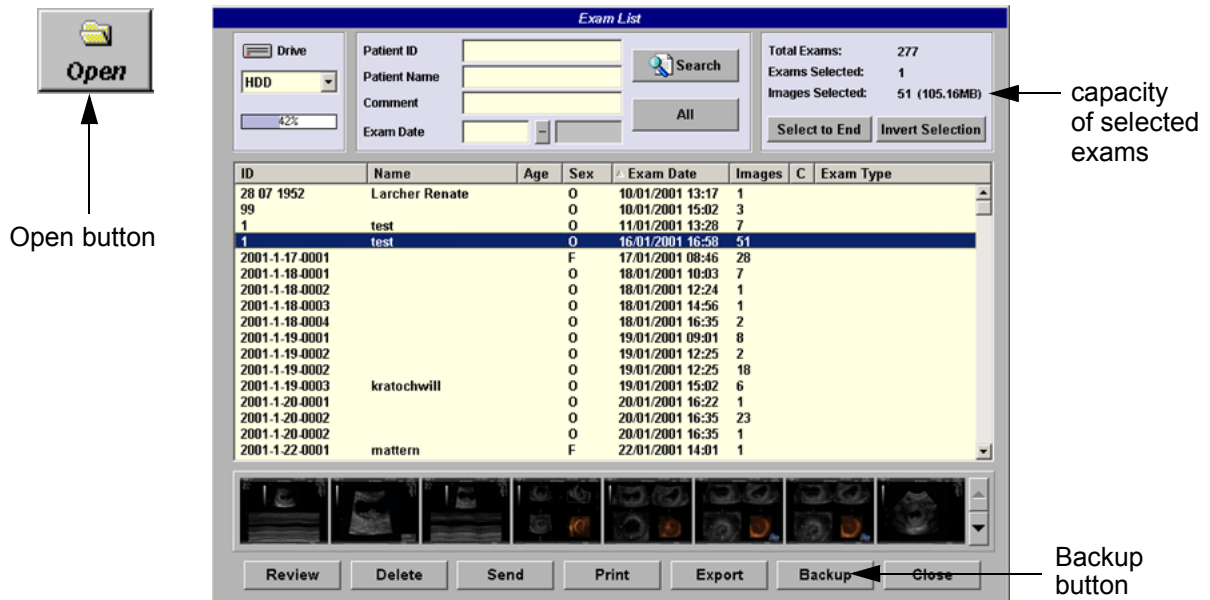

Figure 4-35 Sonoview Screen
- 3.) When you click the **OPEN** button on the upper left side of the screen, a list of all the exams is displayed see Figure 4-35.